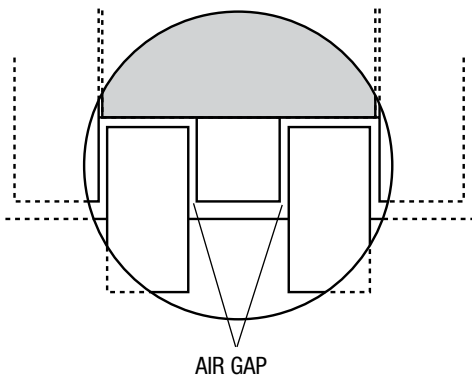

FIGURE 9
b) Working through the gap access port in the side of the body casting, and using a non-magnetic feeler gauge (furnished with each unit) approximately .080" (2 mm) thick (Model 30A) or .063" (1.6 mm) thick (Models 20A, 40A, 45A, 50A and 55A), check the air gaps between the E-Frame legs and the armature pole pieces (see Figure 9). These gaps should be uniform in width and parallel and as nearly alike as possible. If they are not, they should be adjusted by shifting the electrical assembly plate. In checking and adjusting the gaps, it may be found convenient, and the internal parts will be easier to see, if both cover nameplates and both corks are removed.